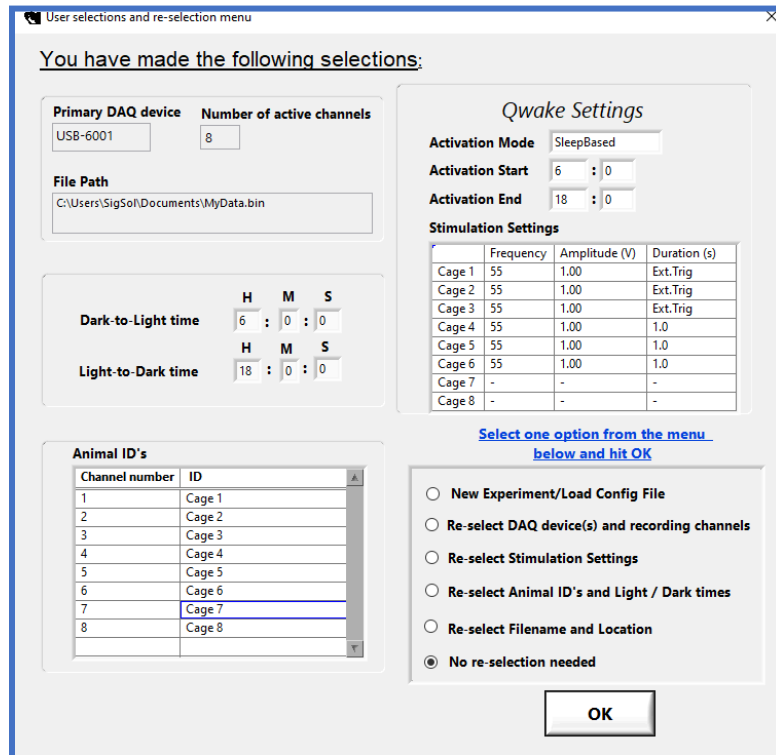

Figure 6: Prompt to check entries made and modify if incorrect information was entered before the data collection process begins.
7. After selecting the stimulation configuration, the program displays your selections as shown in Figure 6. The display includes the DAQ device, number of active channels, file path, light and dark onset times, animal IDs, and RatQwake configuration. It also contains a re-selection menu,